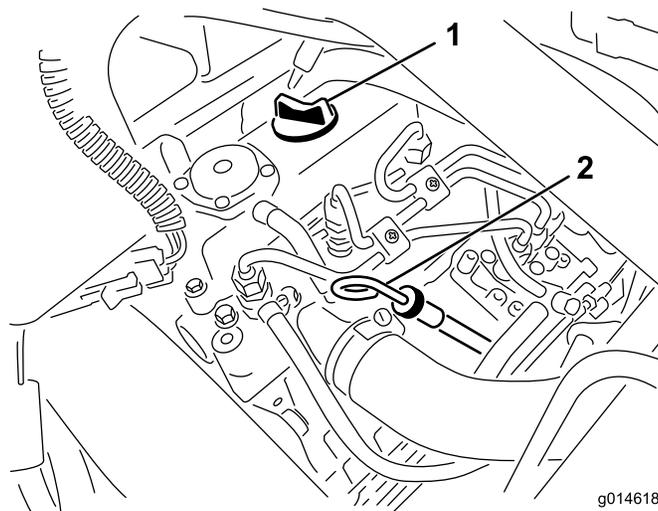

Figure 27
- Remove the dipstick and wipe it with a clean rag (Figure 27). Push the dipstick into the tube and make sure it is seated fully. Remove the dipstick from the tube and check the level of oil. If the oil level is low, remove the filler cap from the valve cover and **slowly** add enough oil to raise the level to the Full mark on the dipstick. Add the oil slowly and check the level often during this process. **Do not overfill.**